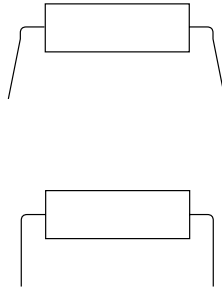

Figure 3: Bending the flared pins of an IC.
- I.C.'s come with slightly flared pins as shown in Figure 3. This is so that they can be readily handled by automatic insertion equipment. Before inserting them into the protoboard, gently bend the pins in with your fingers.